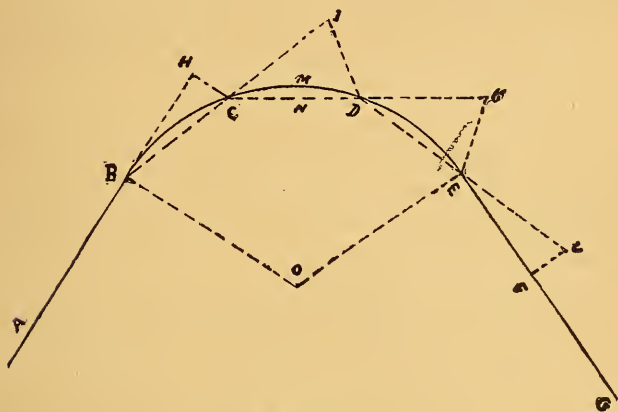

FIG. 32.
The middle ordinate of a chord is the perpendicular distance from the middle of the chord to the curve; thus M N, Fig. 32, is the middle ordinate of the chord, C D.
2. In Fig. 32 the line $H C$, subtends the angle formed by the tangent, $A B$, produced to H , with the chord $B C$, and is called the tangent deflection. The line $I D$, which subtends the angle formed by the chord $B C$, produced to I , with the chord $C D$, is called the chord deflection. The number of degrees in the angle, $I C D$, expresses the degree of curve. The tangent deflection is equal to one-half the chord deflection.